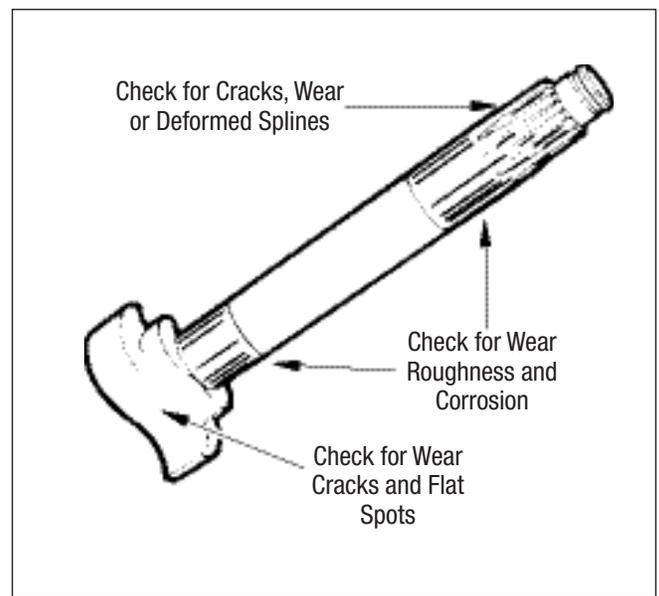

Figure 6 - Camshaft Inspection
1. Check the spline end for cracks, worn, or deformed splines. Replace as necessary (refer to Figure 6).